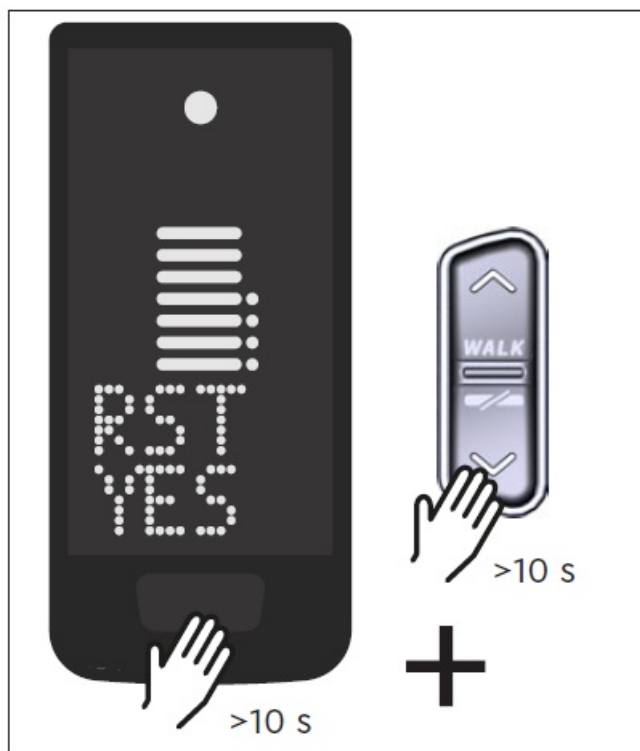

Fig. 10: Reset to factory settings
- Press and hold the button on the Display and the DOWN button on the Remote for at least 10 s, the Setup-Mode is indicated first and RESET is followed (see Fig. 10).